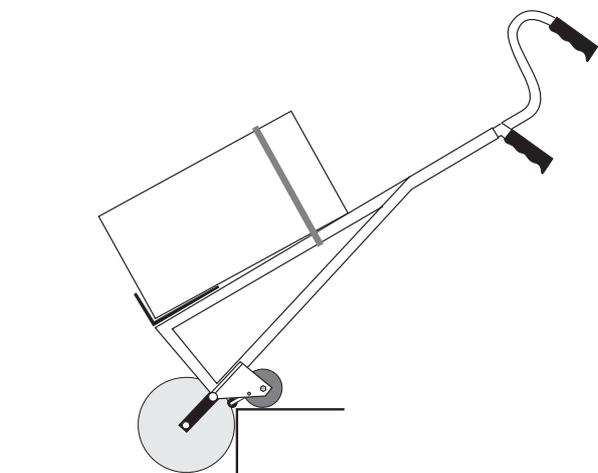

FIGURE 30
3. The climbing process takes place in two sections per step. The first section is finished when the small supporting wheels touch down on the next step (see Figure 30) and take over the load from the big wheels.